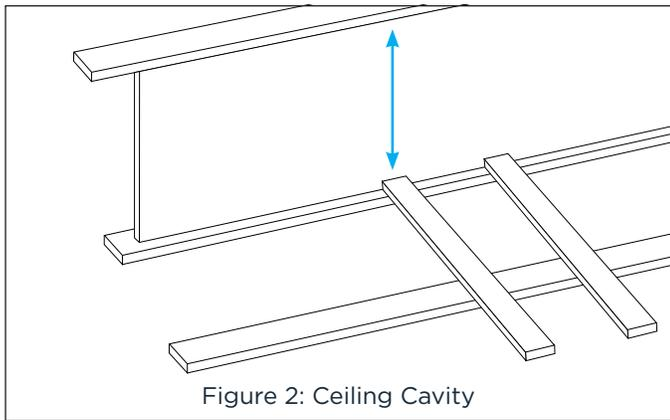

Figure 2: Ceiling Cavity
14. Measure the height from the top of the ceiling cavity to the top of the 2x4 boards to ensure there is enough room to place the subwoofer on top of the boards once they are installed into position (see Figure 2).